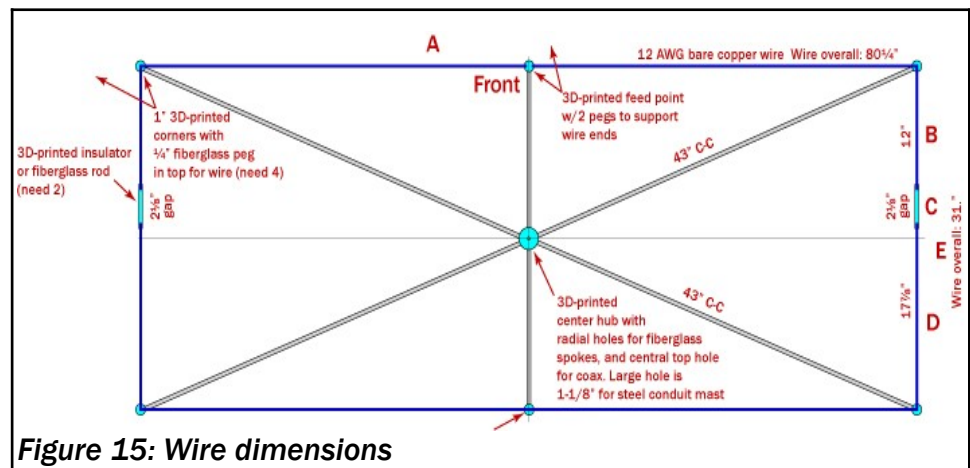

Figure 15: Wire dimensions
Figure 15 is a bare-bones Moxon plan that emphasizes the antenna wire sections A
- a) Start at the upper-left corner peg in **Figure 15**. Feed a length of wire at least 108"(A,B) long through "end" side of the hole in that peg. Lengths are:
- c) Bend the short portion of the wire so it is *perpendicular* to the front of the frame, pointing toward the lower-left peg in **Figure 15**.
- i) Again start at the left end of **Figure 15**. Feed a length of wire at least 118”(A,D) long through the lower-left corner peg, through the single reflector insulator peg, and through the lower-right corner peg. Lengths are:
- k) Bend the short portion of the wire so it is *perpendicular* to the front of the frame, pointing toward the upper-right peg in **Figure 15**.